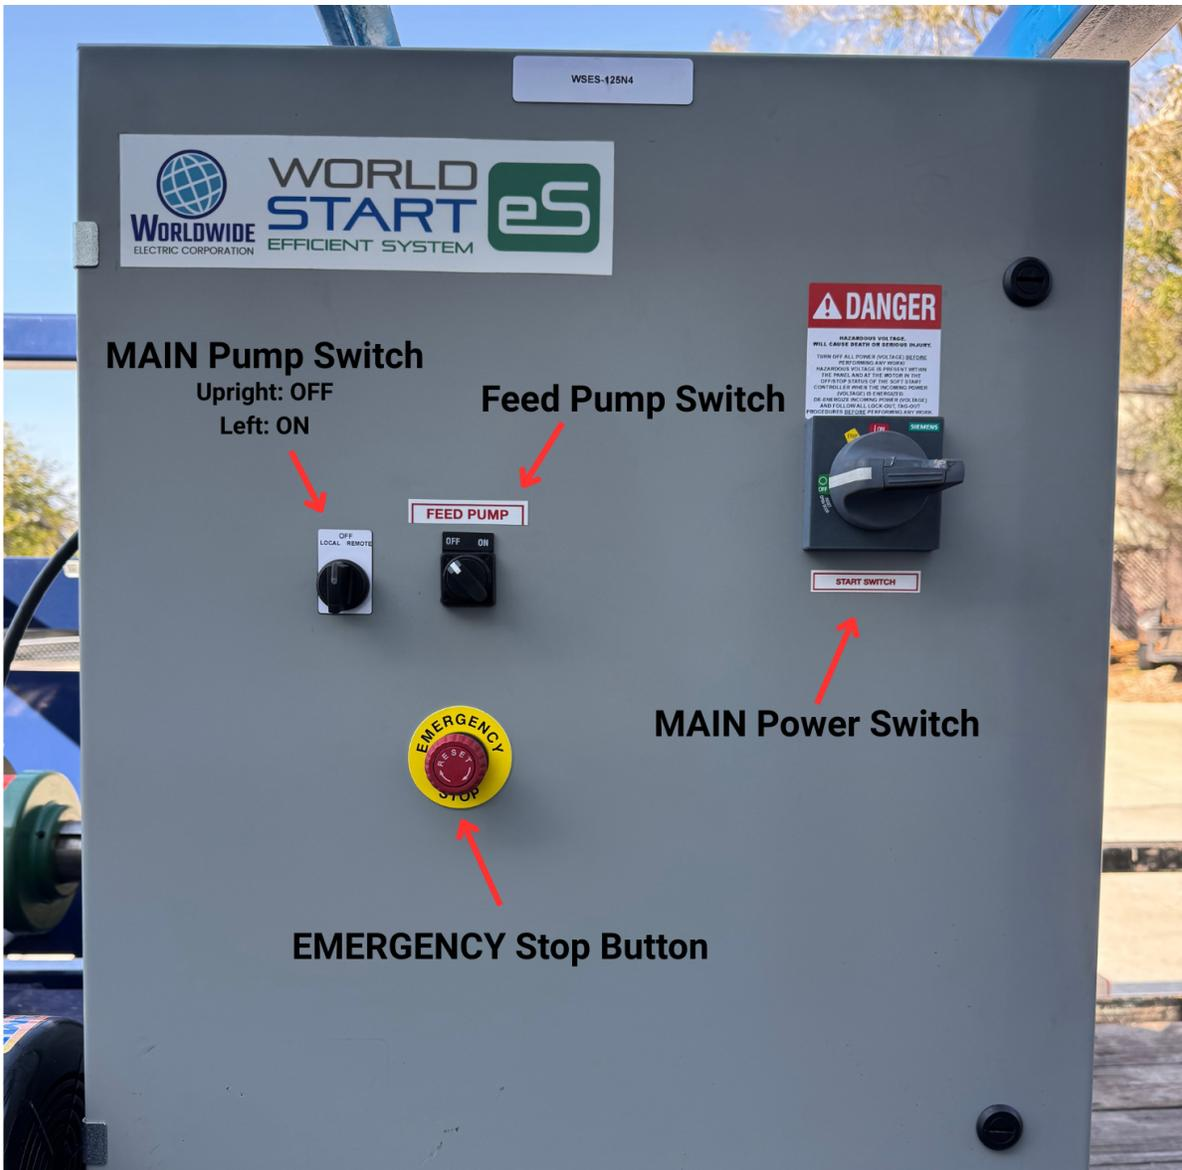

Figure 2.2 – CaviBlaster 3040-E60 Control Panel
10. Connect the bypass hose (See **Figure 2.2**).
11. Connect the pressure hose (See **Figure 2.2**).
Attention to priming the system is necessary. The feed water suction hose inlet connection is located on the water connection panel (See **Figure 2.2**). The (clear) suction hose should be straight and at a slight downward angle from the inlet connection on the water connection panel, with no “humps” in the hose so that trapping of air pockets and creating an air lock is minimized. During the priming cycle the suction hose should always remain below the height of the inlet connection unless connecting with a positive pressure water source.
2. Ensure the E-Stop button is pushed "IN" so that the power supply has been disconnected. (See **Figure 2.2**).
3. Connect the cam-lock socket on the 1-1/2" clear PVC feed hose to the water inlet connection on the control panel (See **Figure 2.2**). Place the other end of the hose in the water supply.
2. Ensure the Main Power Switch is OFF so that the power supply has been disconnected (See **Figure 2.2**).
4. Connect a 1-1/2" cam-lock socket on the water supply hose to the water inlet connection on the control panel (See **Figure 2.2**). Confirm system is primed.
1. Locate the water supply tank so that the outlet of the supply tank is higher than the water inlet on the control panel (See **Figures 2.2 and 4.3**).
3. Ensure the E-Stop button is pushed "IN" so that the power supply has been disconnected (See **Figure 2.2**).